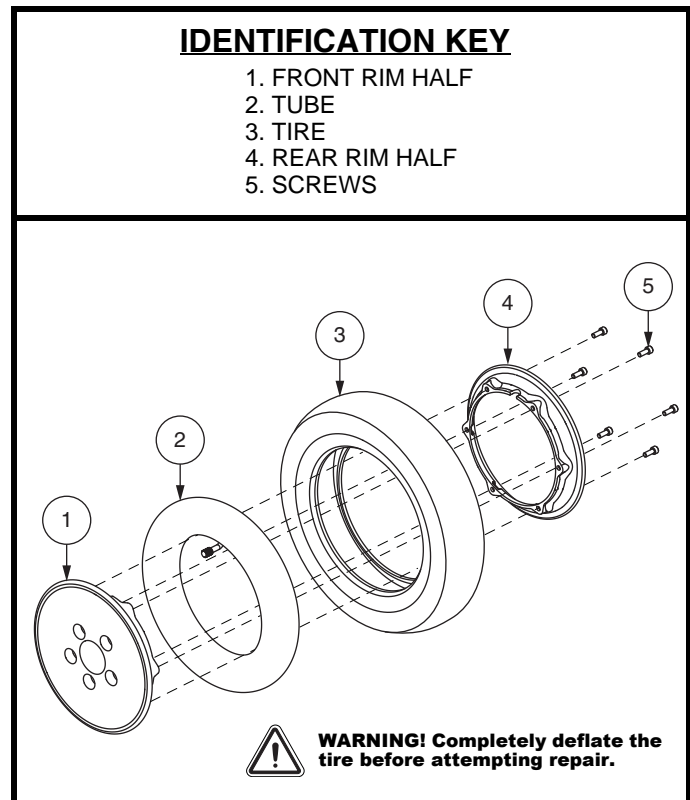

Figure 23. Pneumatic Drive Wheel Disassembly/Assembly
6. Remove the screws and separate the rim halves. See **figure 23**.